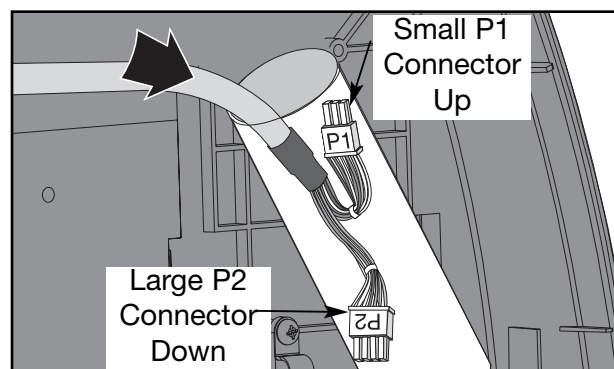

Figure 32
- B. Push the P2 connector down into the top handrail hole with the P1 connector pointing up. See Figures 32 and 33.